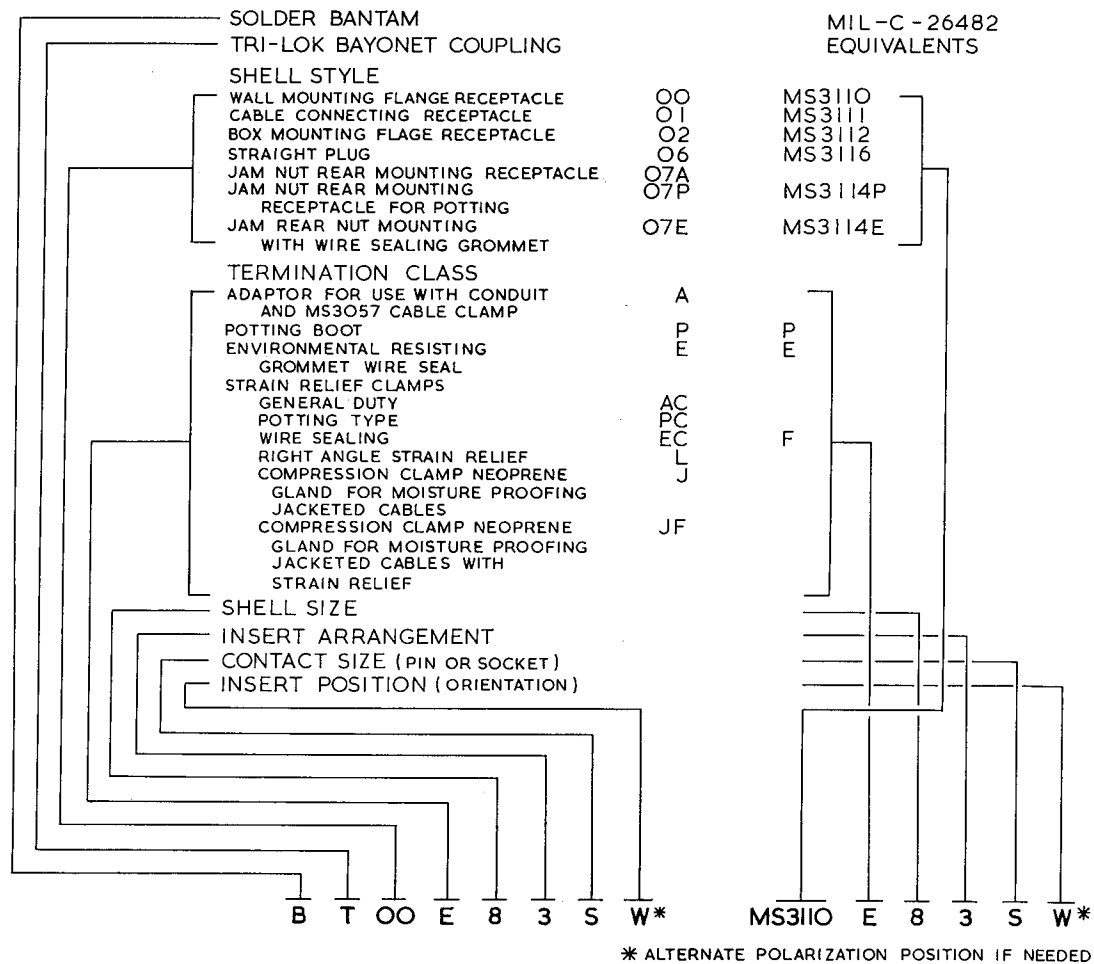

Fig. 1. Significance of part numbers
3. Each connector in the range is completely identified by a grouped part number comprising letters and figures. The significance of the part number together with the MIL-C-26482 equivalents is shown in fig. 1. A typical number would be BT00E-8-3SW.